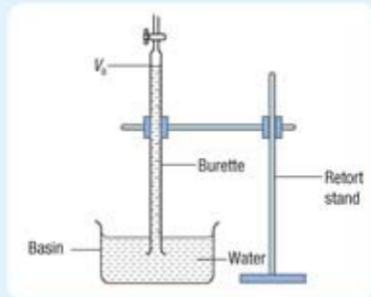

Figure 4.15
1. Fill the burette and basin with water. Then, invert the burette into the basin filled with water and clamp the burette vertically using a retort stand (Figure 4.15).